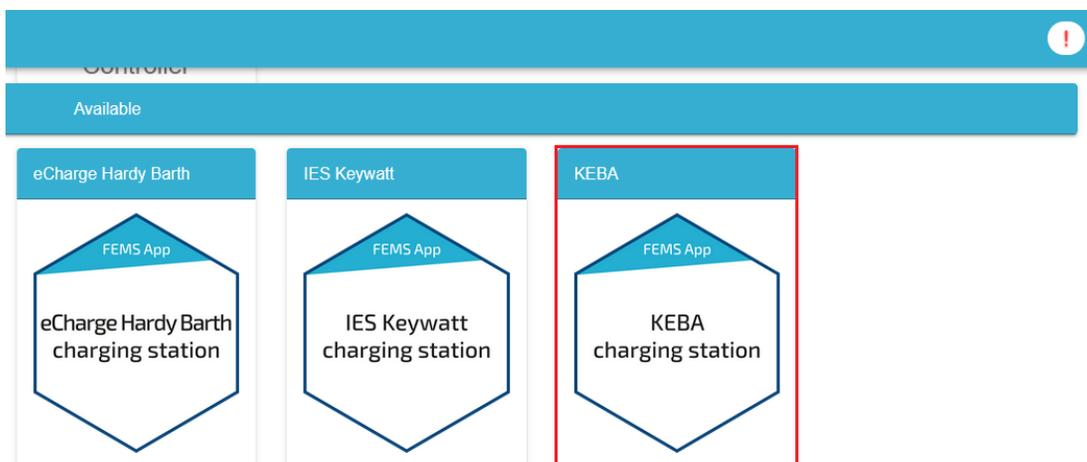

Figure 18. App installation — Variant 2: Step 2
- Figure 18. App installation — Variant 2: Step 2